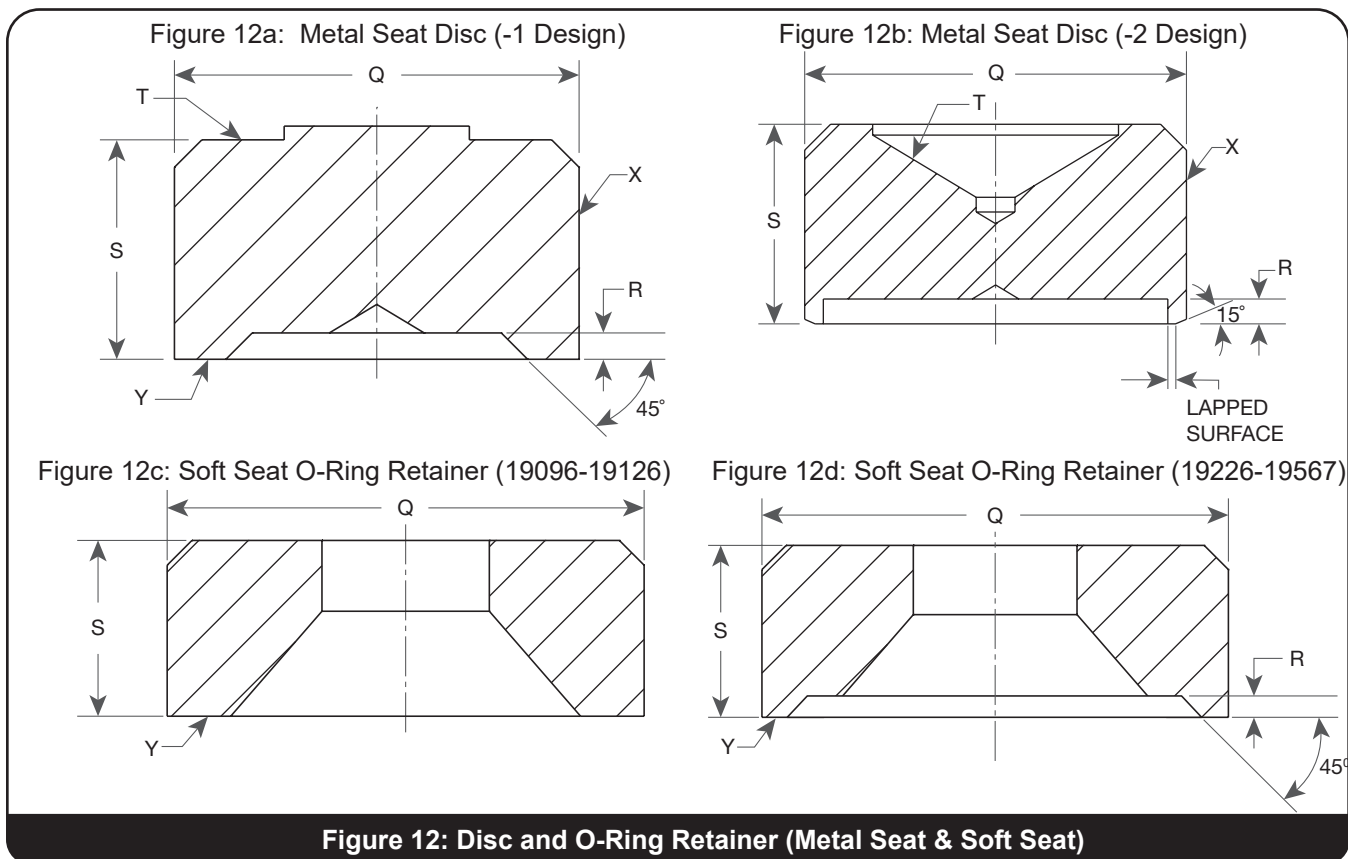

Figure 12: Disc and O-Ring Retainer (Metal Seat & Soft Seat)
1. When the disc seat cannot be repaired by lapping, it can be machined as shown in Figure 12, using the dimensions provided in Table 7.
B. O-Ring Seat Seal Valves (DA)
If slight damage is present, the O-ring retainer can be refurbished by either lapping or machining. O-ring retainer should be replaced if severely damaged or if dimension S (minimum) is exceeded (see Figure 12 and Table 7).
1. These valves have a 15° angle as shown in Figure 12 (-2 Metal Seat Design).
1. Seat surface "Y" (see Figure 12), is damaged beyond lapping or machining limits.
1. O-ring seat seal (37) – always replace.
2. O-ring retainer (3)
- a. Lapped seat relief height "R" is less than "R" minimum and dimension "S" cannot be maintained (see Figure 12 and Table 7).
D. Bonnet (6)